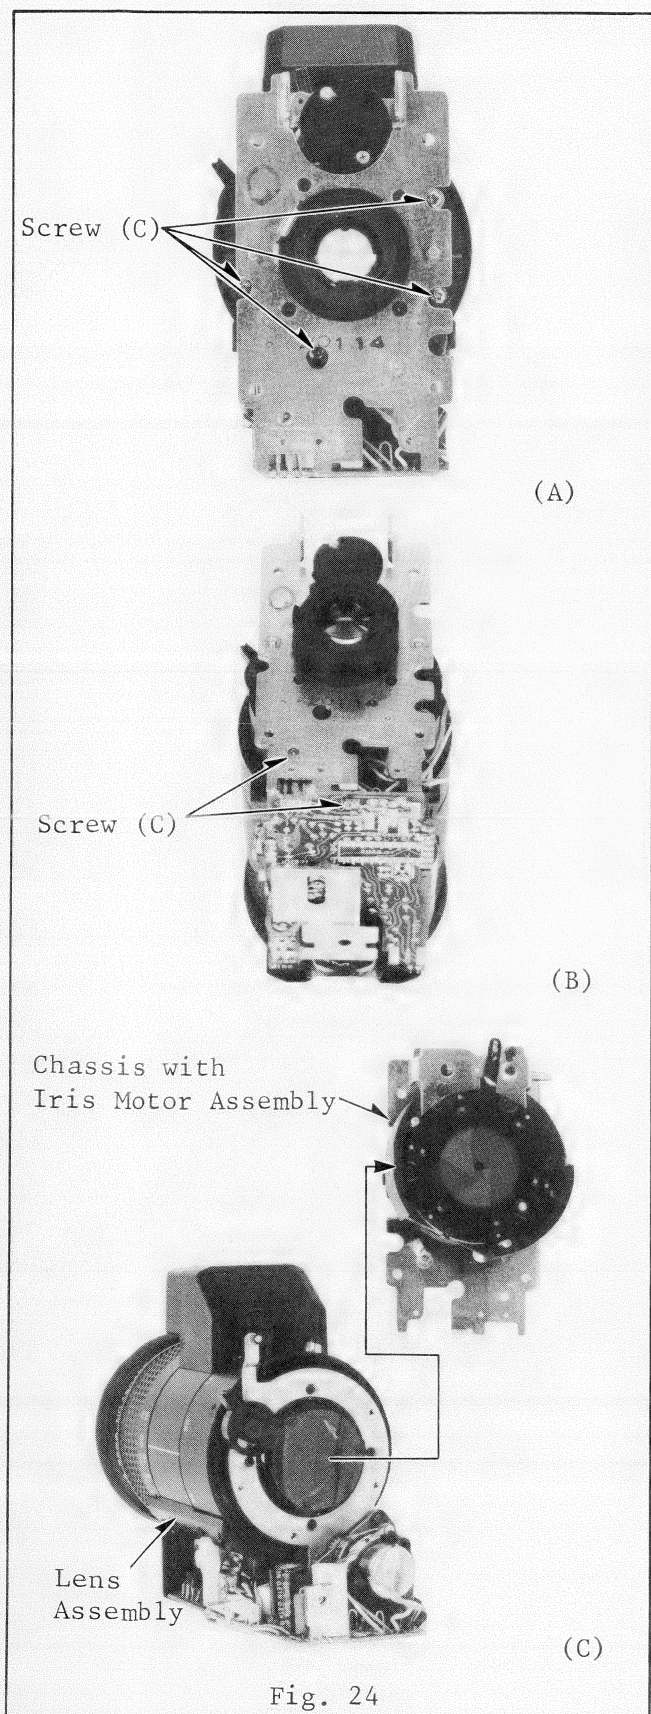

Fig. 24
6-6. Unscrew 6 screws (C) and remove the chassis with the iris motor assembly (see Fig. 24-A/B/C).